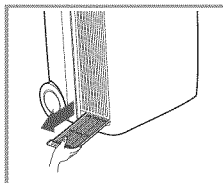

Fig.2
2. Remove the drain-hole **PLUG** by pulling out while pressing in on the coupler. (Fig.2)